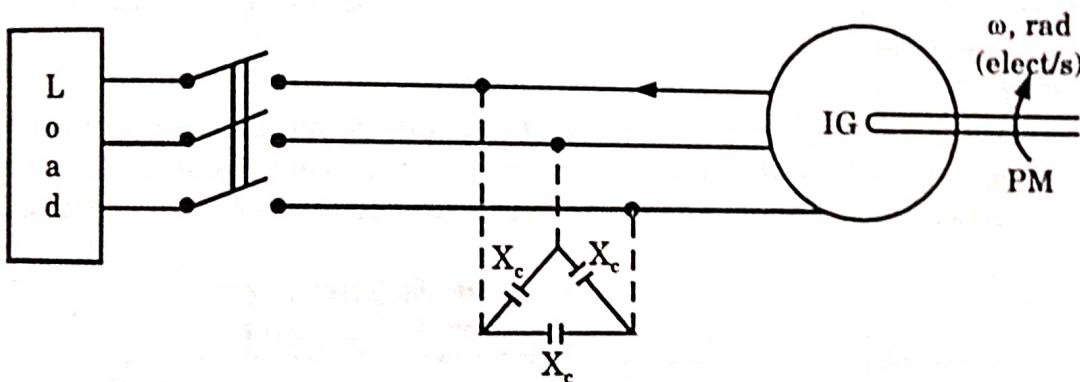

Fig. 3.24.2.
1. An isolated induction generator feeding a load is shown in Fig. 3.24.2.